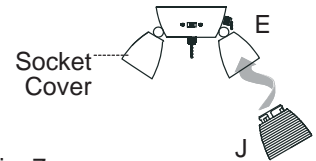

Fig. 7
7. Align dimples on socket cover with grooves in glass shade (J). Turn glass shade (J) clockwise to secure. [Fig. 7] Repeat with the other glass shades (J).